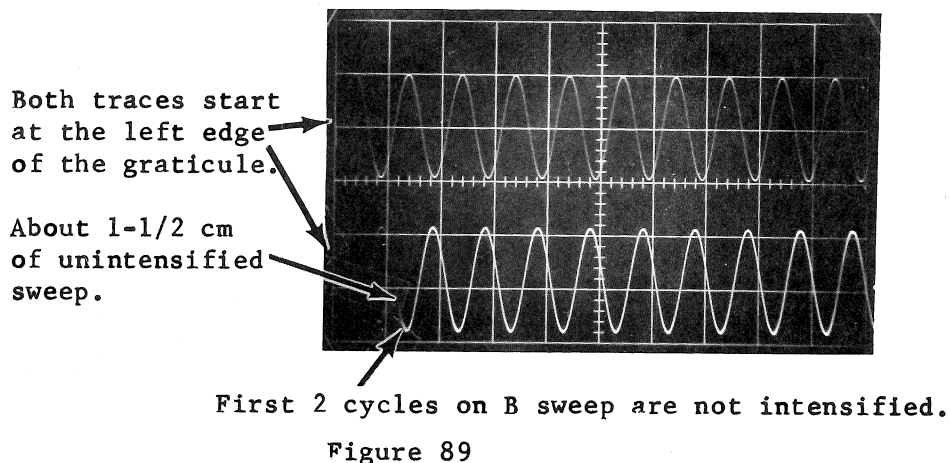

Figure 89
9. Set the DELAY TIME MULTIPLIER to about 1.00. All of B sweep should be intensified except the first two (2) cycles. (See Fig. 89)